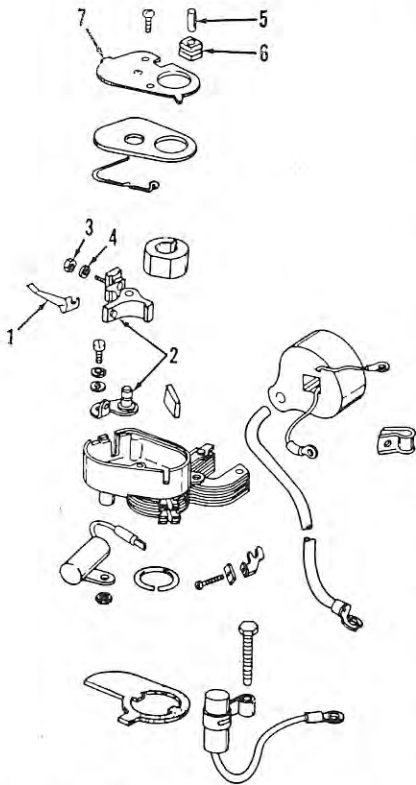

Fig. T4 — Overspeed governor used with centrifugal governor on some models. Refer to text.
GOVERNED MODELS. Major speed adjustment is made by loosening the retaining screw (A—Fig. T3) and moving governor bellcrank assembly toward or away from flywheel as shown. Make minor speed adjustments by bending throttle link as shown at (B). NOTE: Remove link before bending, to avoid damage to remainder of governor linkage. A speed limiting device is incorporated into the magneto breaker box on most governed models. This unit grounds the magneto at 4500-4700 rpm, thus limiting the top speed. Refer to Fig. T4 for an exploded view of breaker box with overspeed mechanism. Plunger (5) must be installed